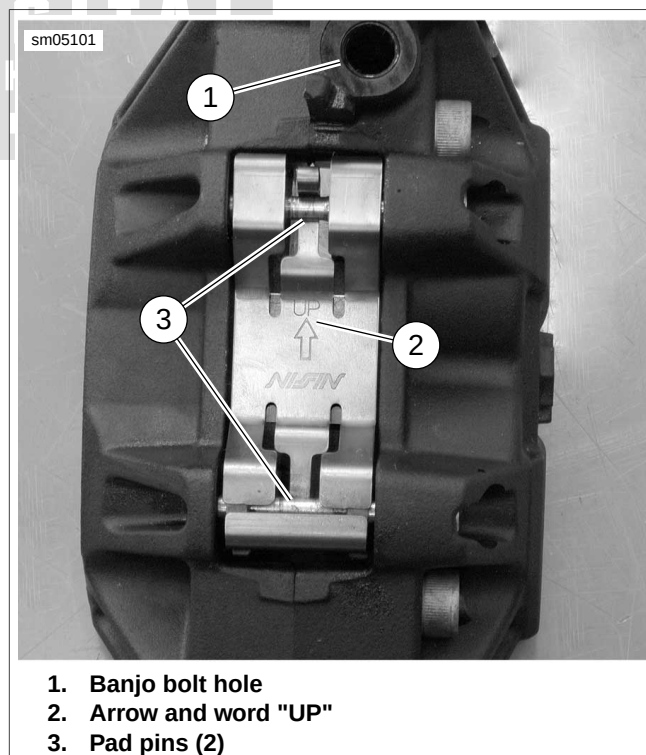

Figure 2-101. Front Caliper Pad Spring Orientation
6. See Figure 2-101. Install brake pads and pad spring. Ensure the spring is oriented as shown with the arrow and